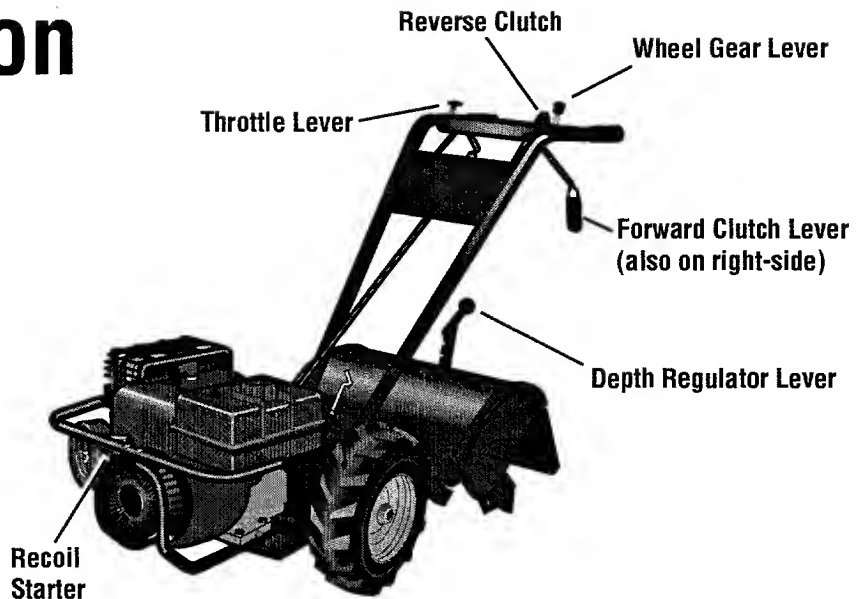

Figure 4-1
2. Put the Wheel Gear Lever (Figure 4-1) in the ENGAGE position.